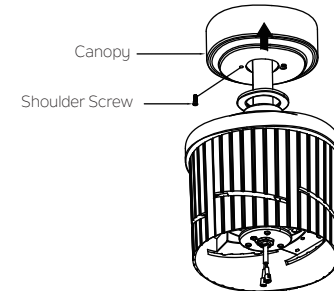

Fig. 16
Step 2. Assemble canopy by rotating key slot in canopy over shoulder screw in mounting bracket. Reinstall the shoulder screw that was previously removed, then retighten two shoulder screws securely. (Fig.16)